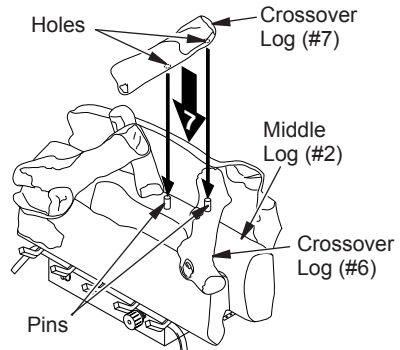

Figure 26 - Installing Crossover Log #7 (Model CCL3930PTB/NTB Only)
- For **CCL3930PTB/NTB** only: Locate holes on the bottom of crossover log (#7). Slide onto the pins located in crossover log (#6) and middle log (#2). See Figure 26.